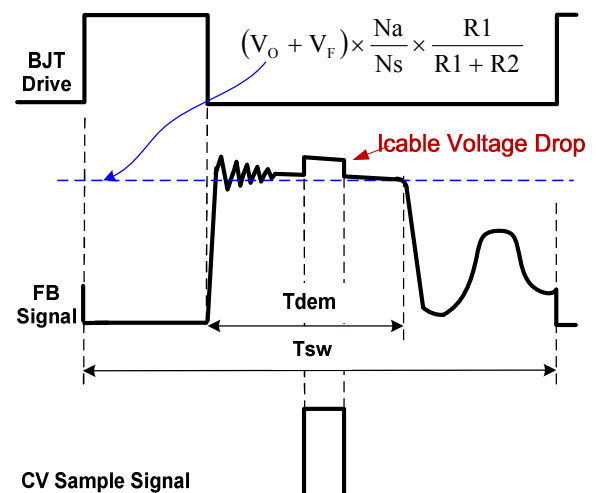

Fig.2
In primary side control, the output voltage is sensed on the auxiliary winding during the transfer of transformer energy to the secondary. Fig.2 illustrates the CV sampling signal timing waveform in DP2525JB. As shown in Fig.2, it is clear that there is a down slope representing a decreasing total rectifier V_f and its voltage drop as the secondary current decreases to zero. To achieve an accurate representation of the secondary output voltage on the auxiliary winding, the CV sampling signal blocks the leakage inductance reset and ringing. When the CV sampling process is over, the internal sample/hold (S&H) circuit captures the error signal and amplifies it through the internal Error Amplifier (EA). The output of EA is sent to the Primary Side Constant Voltage Modulator (PSR-CVM) for CV control. The internal reference voltage for EA is trimmed to 2V with high accuracy.
During the CV sampling process, an internal variable current source is flowing to FB pin for Cable Drop Compensation (CDC). Thus, there is a step at FB pin in the transformer demagnetization process, as shown in Fig.2. Fig.2 also illustrates the equation for "demagnetization plateau", where V_o and V_f is the output voltage and diode forward voltage; R_1 and R_2 is the resistor divider connected from the auxiliary winding to FB Pin, N_s and N_a are